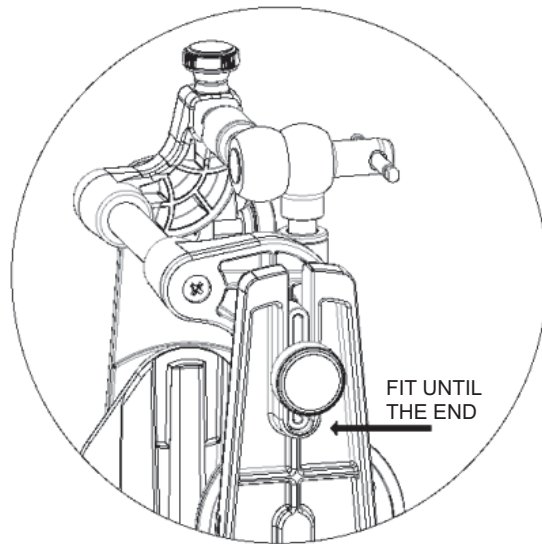

Fig. 07
4.7 Articulator assembling: When fitting transfer set support in the articulator, take it to the end of the groove for guaranteeing the register position and then lock the screw. (**Fig. 07**).